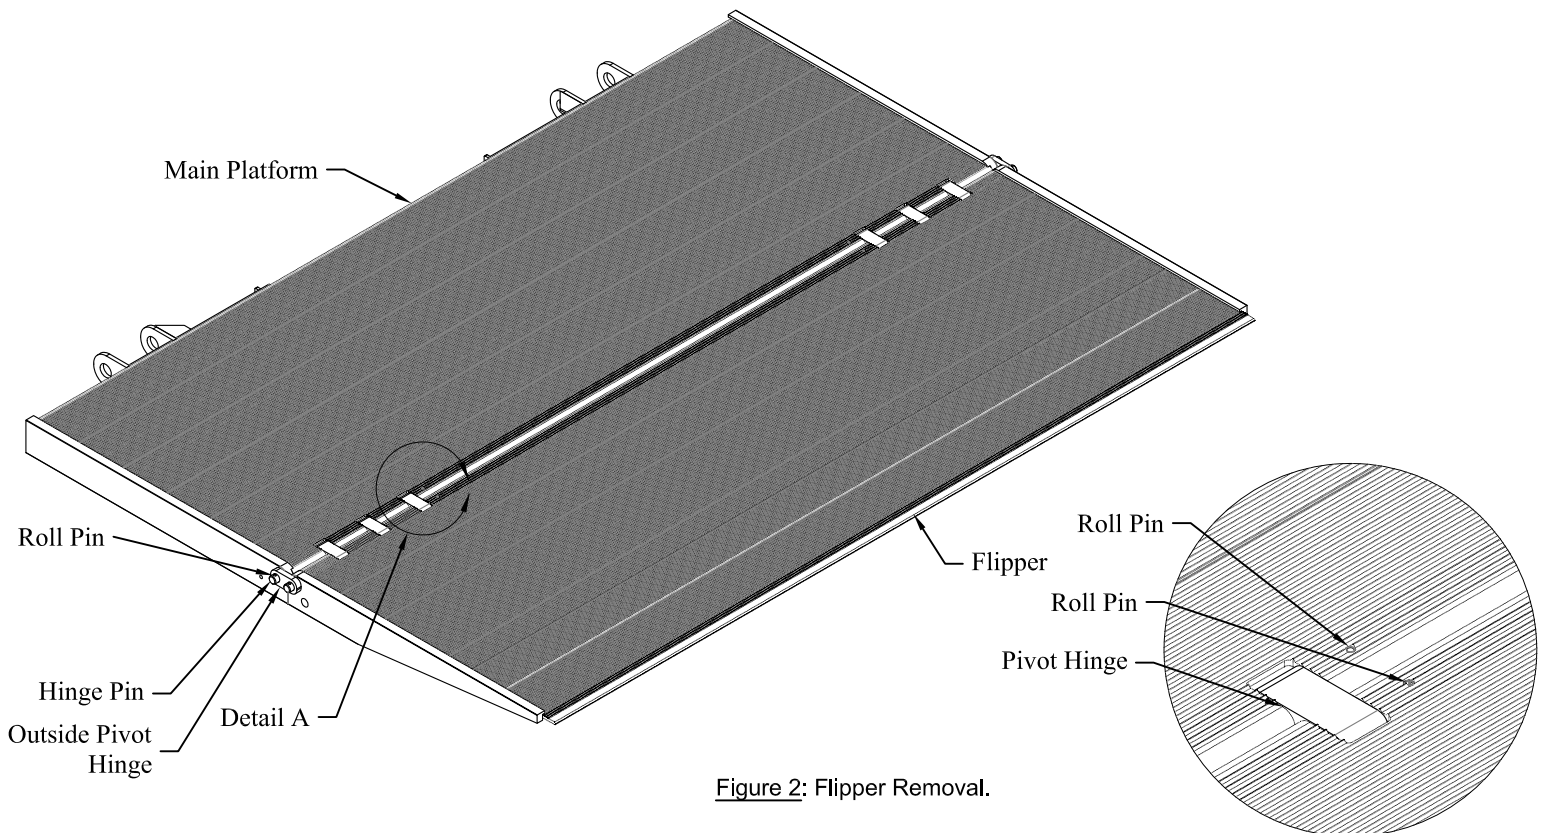

Figure 2: Flipper Removal.
5. **DRIVE** the roll pins out of the hinge pins (Figure 2, Detail A).
1. **ASSEMBLE** the flipper and main platform by lining up the pivot hinges (Figure 2).
2. **INSERT** the hinge pins into the main platform and flipper through the outside pivot hinge and all three (3) pivot hinges on each side (Figure 2).
4. **DRIVE** two (2) roll pins into each hinge pin to lock them in place (Figure 2).